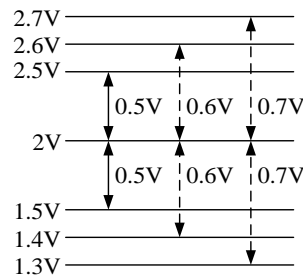
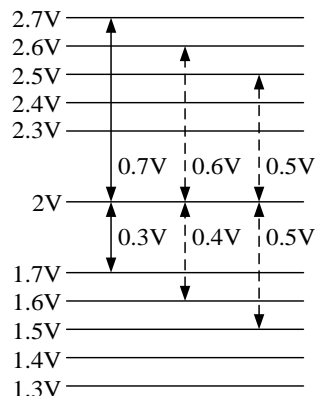

Figure 15. Adjust W8 or W6
Figure 16. Adjust W7 or W5
5. Set output voltage limit. Adjust the potentiometer W6 to set the voltage limit. TP VLIM is the test point for W6. After the VLM is tuned properly, adjust W5 to achieve different voltage limit for heating and cooling. As is shown in Figure 15 and Figure 16.
Set output current limit. Adjust the potentiometer W8 to set the current limit. TP ILIM is the test point for W8. After the current limit is tuned properly, adjust W7 to achieve different ILM for heating and cooling. As is shown in Figure 15 and Figure 16.